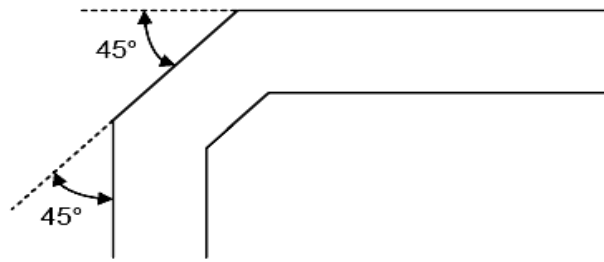

Figure 2-5 Bend layout example
- For high-speed signals, they should minimize the number of corners and vias. If a 90° bend is required, it is recommended to use two 45° bends instead. Figure 2-5 shows the example.